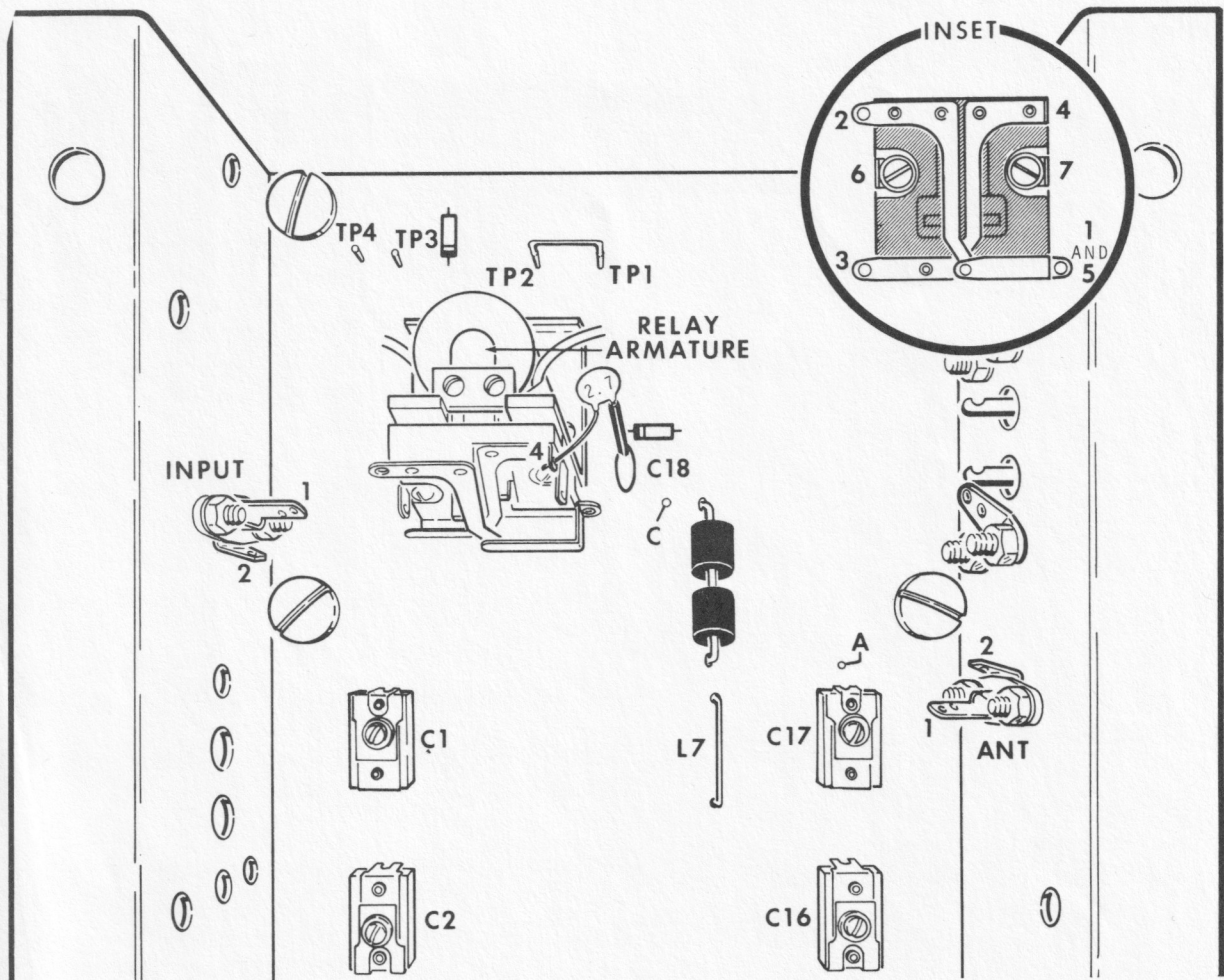

Figure 2-1A
- ( ) Refer to Figure 2-1A (fold-out from Page 17) and solder the free lead of the 2.7 pF disc capacitor to terminal 4 of the relay. NOTE: A coaxial cable was previously soldered to this terminal.
- ( ) While keying the exciter 5 seconds on and 10 seconds off, use the alignment tool constructed earlier to adjust the four trimmer capacitors (Figure 2-1A) for maximum meter deflection in the sequence C2, C1, C16, C17.
- ( ) While keying the exciter 5 seconds on and 10 seconds off, use the alignment tool constructed earlier to adjust the four trimmer capacitors (Figure 2-1A) for maximum meter deflection in the sequence C2, C1, C16, C17. Proper tuning is indicated when the voltage at TP1 is at least twice the voltage shown on the meter when the + power wire is disconnected.
- ( ) Refer to Figure 2-1A and solder the free end of the 2.7 pF disc capacitor to relay terminal 4.